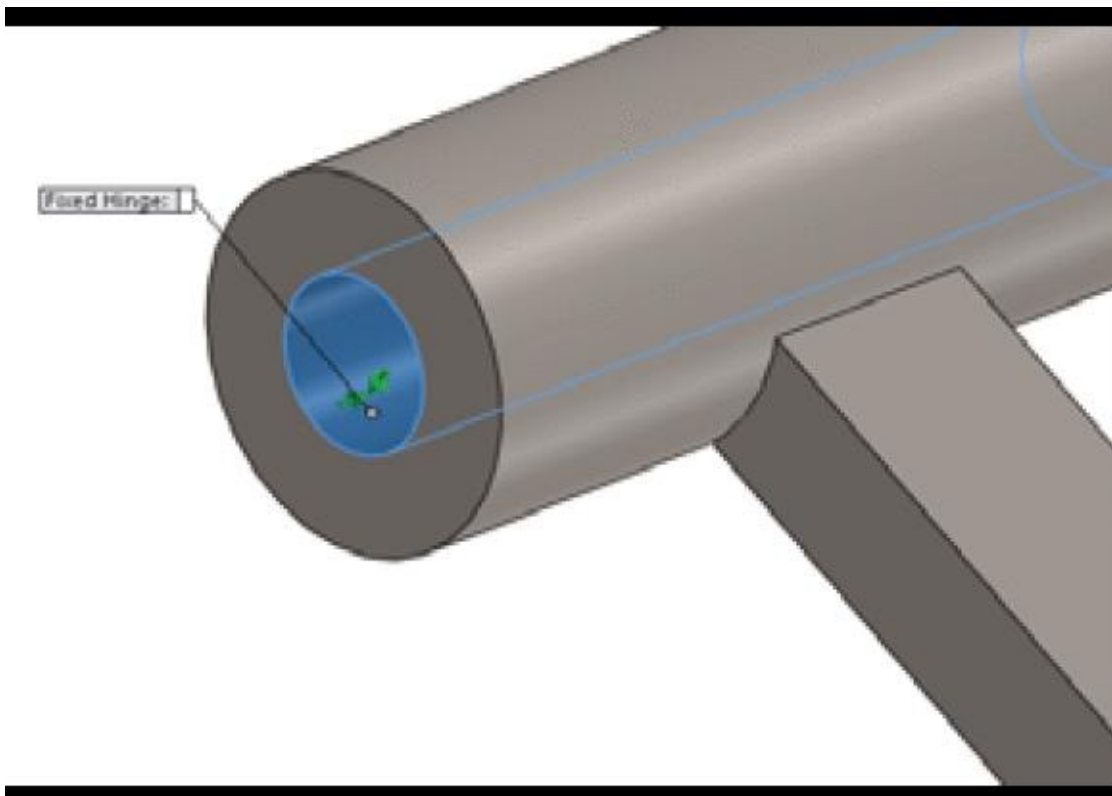

Figure-21. Face selected for hinge
- Select a cylindrical face that you want to fix as hinge; refer to Figure-21.